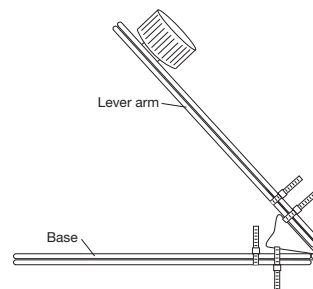

Figure 4.
8. Attach the matching Velcro dot to the plastic bottle cap and press the bottle cap firmly to the tongue depressor. See Figure 4.